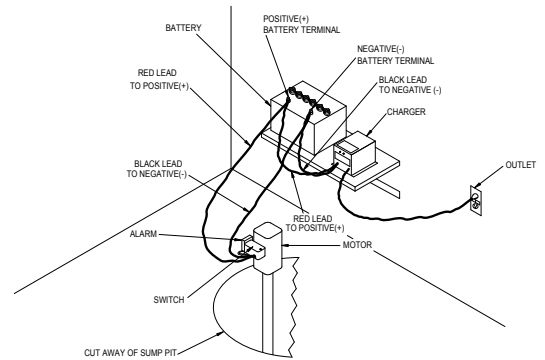

Figure 4.1
4.1) Complete electrical connections as shown in Figure 4.1.